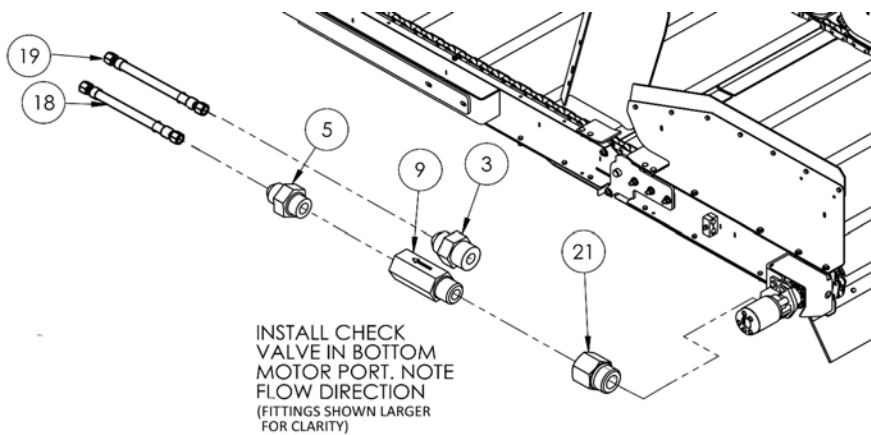

Figure 12: Attach Hydraulic Hoses and Fittings to Motor
16. Connect the hydraulic hoses and fittings to the conveyor motor according to the diagram (*Figure 12*) and chart (*Table 2*).